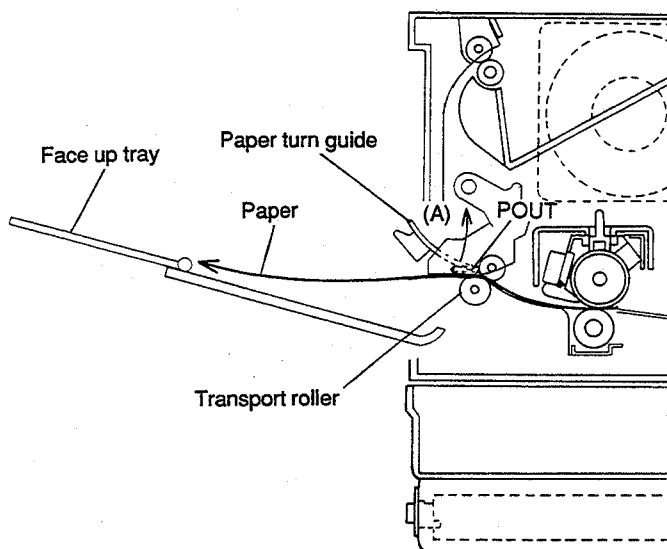

Fig. 7-10
- ⑧ After passing through the POUT, the paper is fed out to the face up tray, face up mode only. When the face up tray is open, the paper turn guide is simultaneously opened in arrow direction (A) in Fig. 7-10 and is separated from the transport roller, allowing the paper to be fed out to the face up tray.